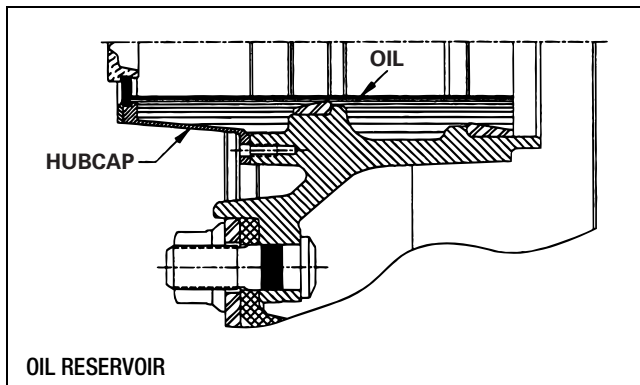

Figure 4.6
2. If you check the oil level in a hub, such as a front or trailer hub, and the oil is low, fill the reservoir with oil to the specified level. Figure 4.6.